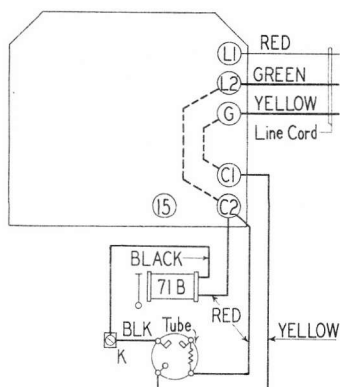

Fig. 11
- W + on Ring, J + on Tip. (See Fig. 11)
Connections shown in Fig. 11 are for No. 1543BT Telephone with ringer circuit wired for + party on tip side of line. For + parties on ring side of line, reverse red and green conductors of line cord at L1 and L2 terminals of coil and capacitor assembly.